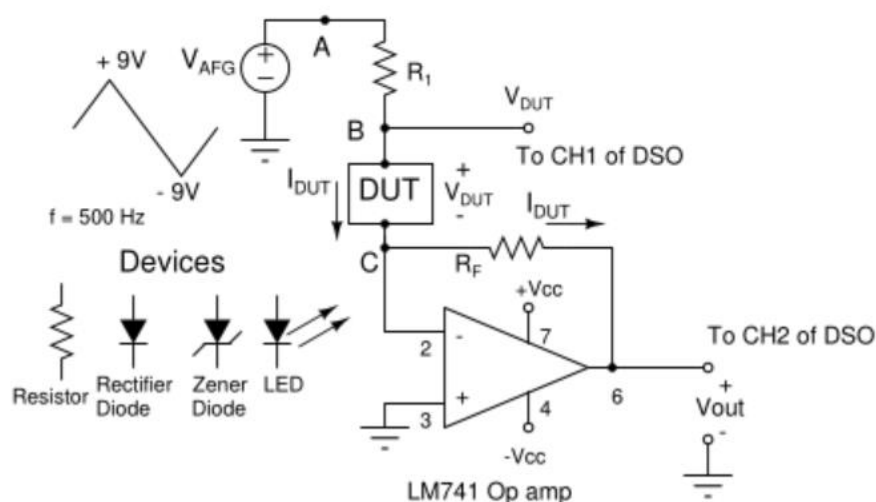

Fig. 4 LM741 Op amp based current-to-voltage converter for obtaining the V-I characteristics of diodes
The circuit diagram to be used for plotting the V-I characteristics of diodes is shown in Fig. 4. Following are the major blocks of the circuit.
In Fig. 4, the resistance R_1 is used as a current-limiting resistance. We shall choose $R_1 = 1 \text{ k}\Omega$ to limit the maximum current to roughly 8 mA. Almost the entire current (I_{DUT}) will flow from the inverting input terminal through R_F to the V_{out} terminal of the Op amp. Hence, $V_{out} = -I_{DUT} R_F$. We shall choose $R_F = 1 \text{ k}\Omega$. Thus, a device current of 1 mA will make $V_{out} = -1 \text{ V}$.
- Wire the current-to-voltage converter circuit shown in Fig.4. Note that with reference to Fig.4, $I_{DUT} = I_{Res}$; $V_{DUT} = V_{Res}$.
- Observe the XY plot of the given IN4007 Rectifier diode. With reference to Fig.4, the voltage across the diode (V_{DUT}) is the X waveform (CH1) and the current through the diode (I_{DUT}) is the Y waveform (CH2).